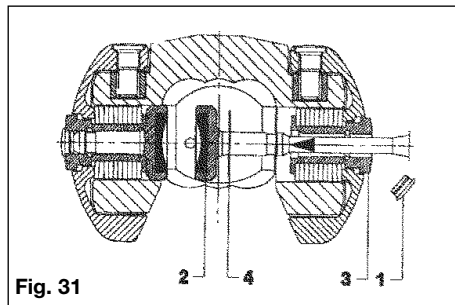

Fig. 31
- Remove protective caps (Fig. 31/Item 1) with the aid of a small screwdriver.
- Press worn out pad inwards and remove (use punch and hammer) (Fig. 31/2)
present) and press in as far as it will go (Fig. 31/Item 4 & Fig. 32).